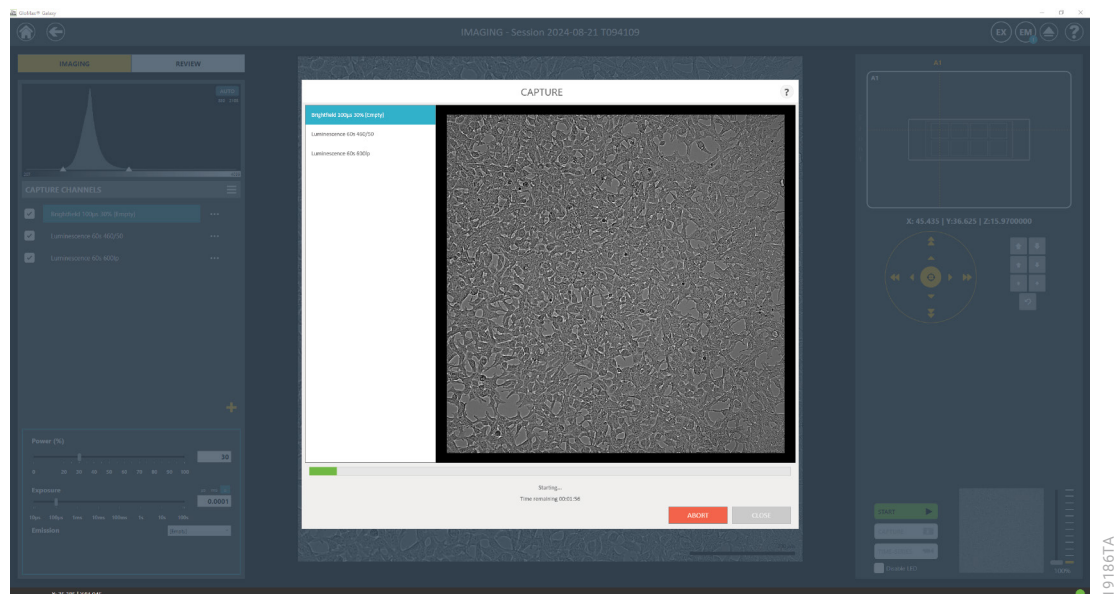

Figure 28. 'Capture' pop-up window.
- During a capture, a pop-up window will show the elapsed and remaining capture time and will display images as they are captured. Select the tabs for different channels on the left side of the window to toggle and view the respective images (Figure 28).